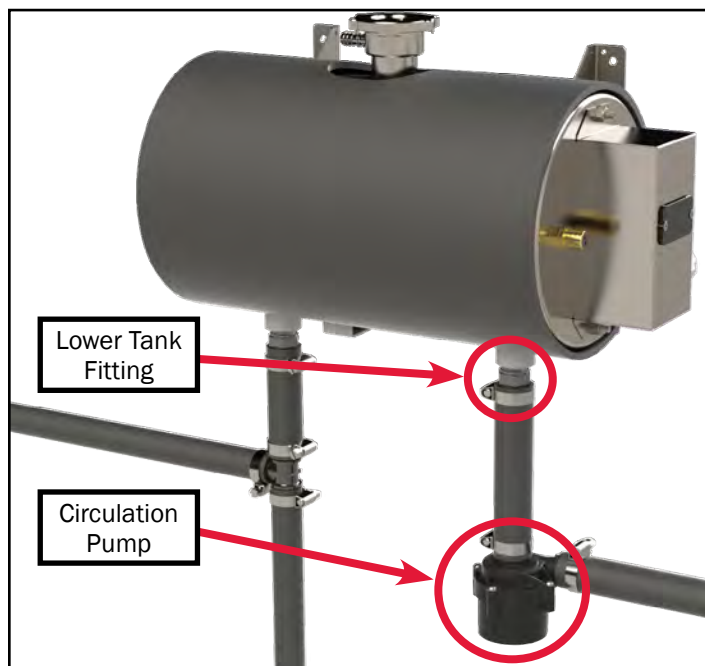

Figure 53
2. Drain coolant from the lower tank fitting (see Figure 53). Pour into a bucket to be reused later.